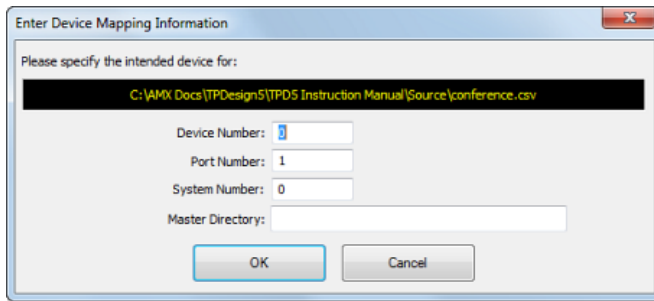

FIG. 161 NetLinX Studio 4 - Enter Device Mapping Information dialog
5. In the *Open* dialog, locate and select the "conference.csv" file and click **Open** to access the *Enter Device Mapping Information* dialog (FIG. 161).